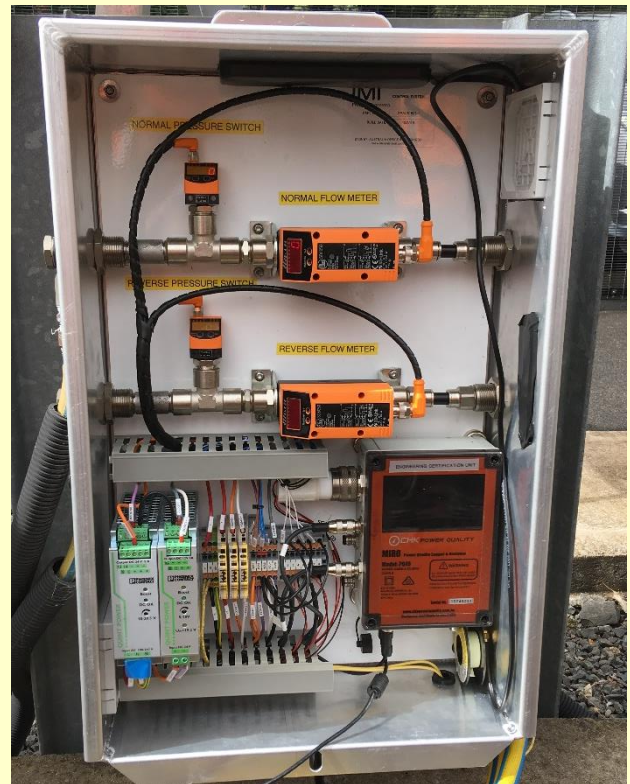

Figure 4: Shows 1ARL-Pneu in a Pneumatic control cabinet
- **1ARL-Pneu:** PCM for pneumatically driven point machines is shown in Figure 4. Inputs for this version include pressure and flow rates.